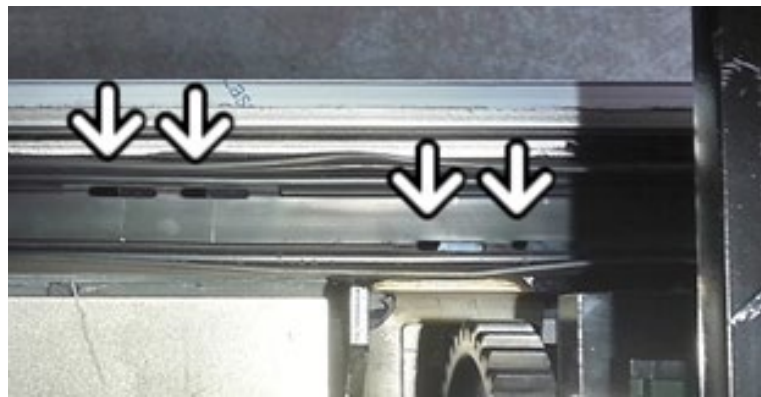

FIGURE 22
34. Slip the inflation tube in the vehicle structure. Seal with #684685 Simpson ISR 70-03 sealer all round. (Figure 22)
36. Between the air inlet and the nearest corner, locally clip the seal on the base. (Arrows, Figure 22)
37. At the lower corner, insert seal in the bottom of the base, *without clipping*. (Figure 22)